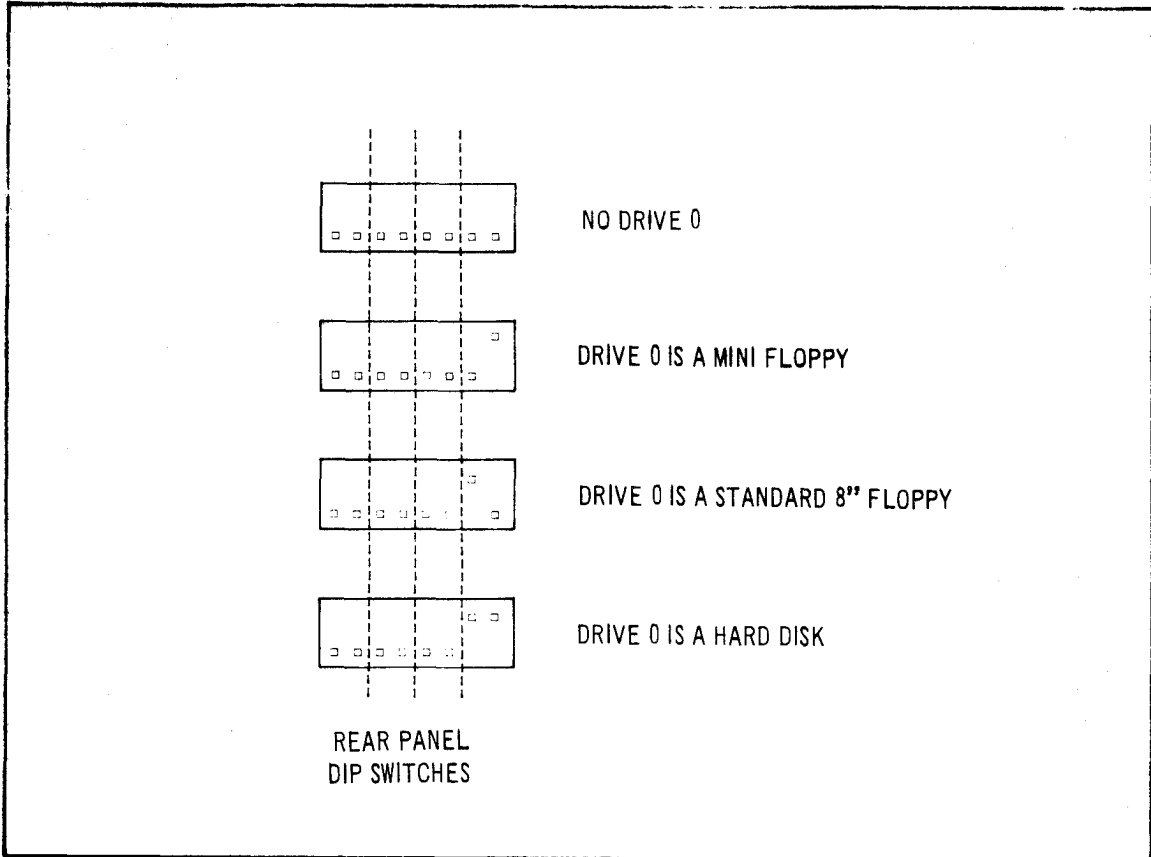

Figure 3-3. DRIVE 0 Configuration Switches.
11. You must set the "drive configuration" switches on the rear panel of the interface. These switches tell the interface what to do when you power-up or reset the system. Normally, you want the interface to load the operating system software from your fastest disk drive (this will be DRIVE 0). Refer to Figure 3-3 for the location of the DRIVE 0 select switches. If you have an 8" floppy drive or a hard disk that you want to be DRIVE 0 then you must have an 8" diskette or a hard disk that contains the disk operating system software. If your only copy of the operating system is on a mini diskette, they you must select DRIVE 0 as a mini floppy and proceed as if it were the only drive available to you. Later, you may use the disk operating system commands to copy the mini disk data onto an 8" floppy or hard disk.
- f. Check the drive serial number. Be sure you have selected the correct DRIVE 0 with the drive configuration switches (see Figure 3-3).
- i. Try setting DRIVE 0 to be "NO DRIVE" (both switches off, see Figure 3-3). Now, press the keyboard reset button, There will be a 1/2 second pause and then MEMORY SIZE? will appear on the screen (you are in BASIC LEVEL II). If this message does not appear, or if there is no momentary pause, there is a problem with the interface or the interface/ keyboard cable.